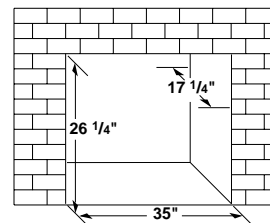

Figure 13 - Rough Opening for Installing in Masonry Fireplace
- 1. Use dimensions shown in Figure 13 for the masonry fireplace opening.